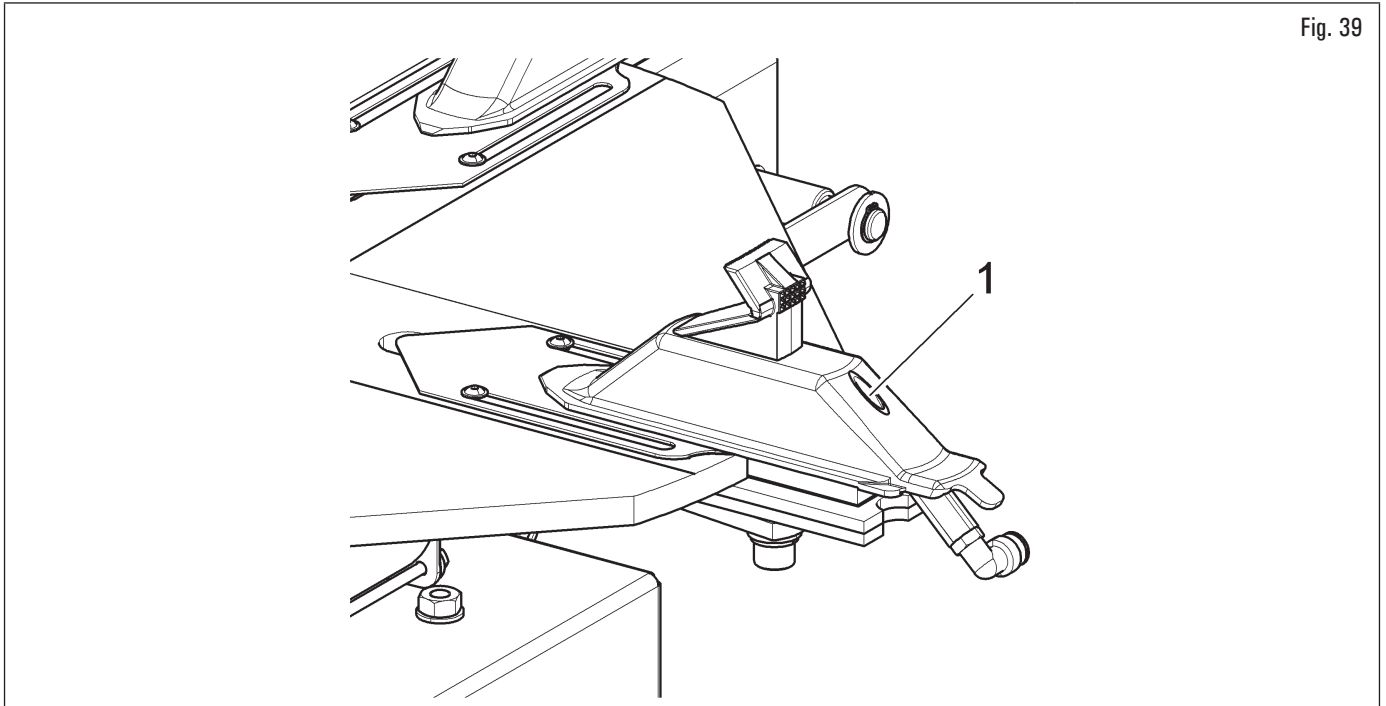

Fig. 39
The tubeless inflation device supplies high-pressure air from the nozzle (Fig. 39 ref. 1), which encourages the correct positioning of the bead against the rim, and therefore normal inflation.